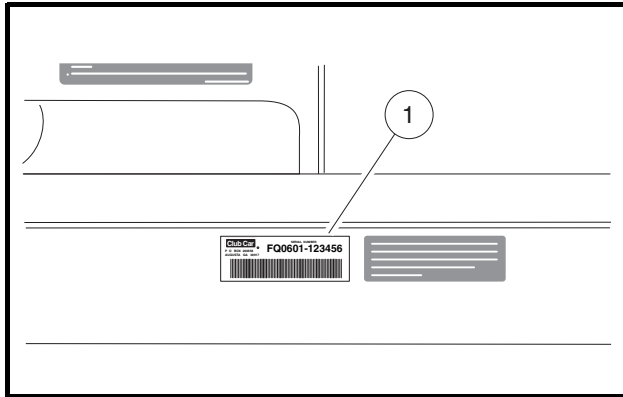

Figure 7 Serial Number
The serial number of the vehicle is printed on a bar code decal (1) mounted on the frame directly above the accelerator pedal (Example: FQ0601-123456) (**Figure 7**). There is also a second serial number decal mounted on the front body frame behind the center dash panel. The center dash panel must be removed to view this decal. **See following NOTE.**